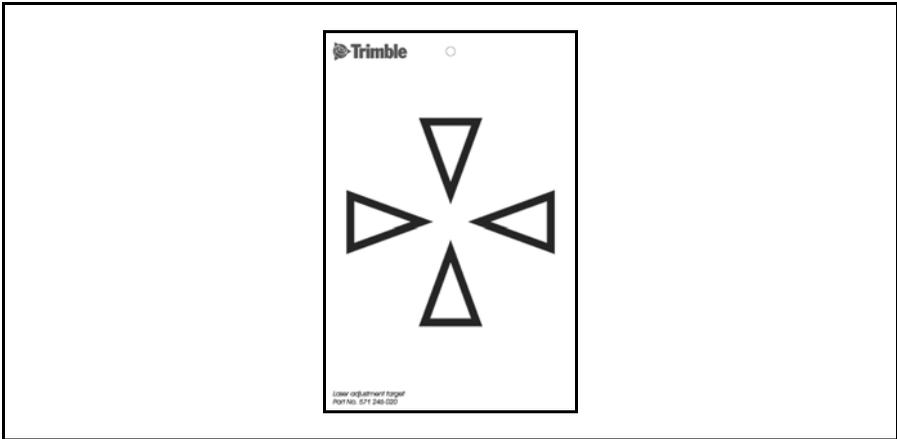

Figure 4.27 Adjustment target for DR 300+
4. If the red laser spot lies outside the cross-hairs, adjust the direction of the beam until it matches the cross-hairs, see Figure 4.27.